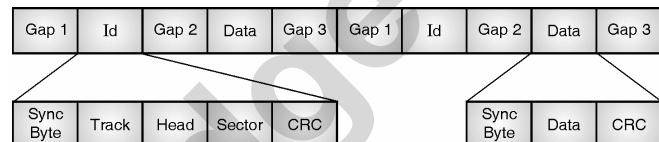

Fig. 11.4.4 : Data storage format in magnetic memory
- Each data stored on the disk is stored in a special manner with some ID information as shown in the Fig. 11.4.4.